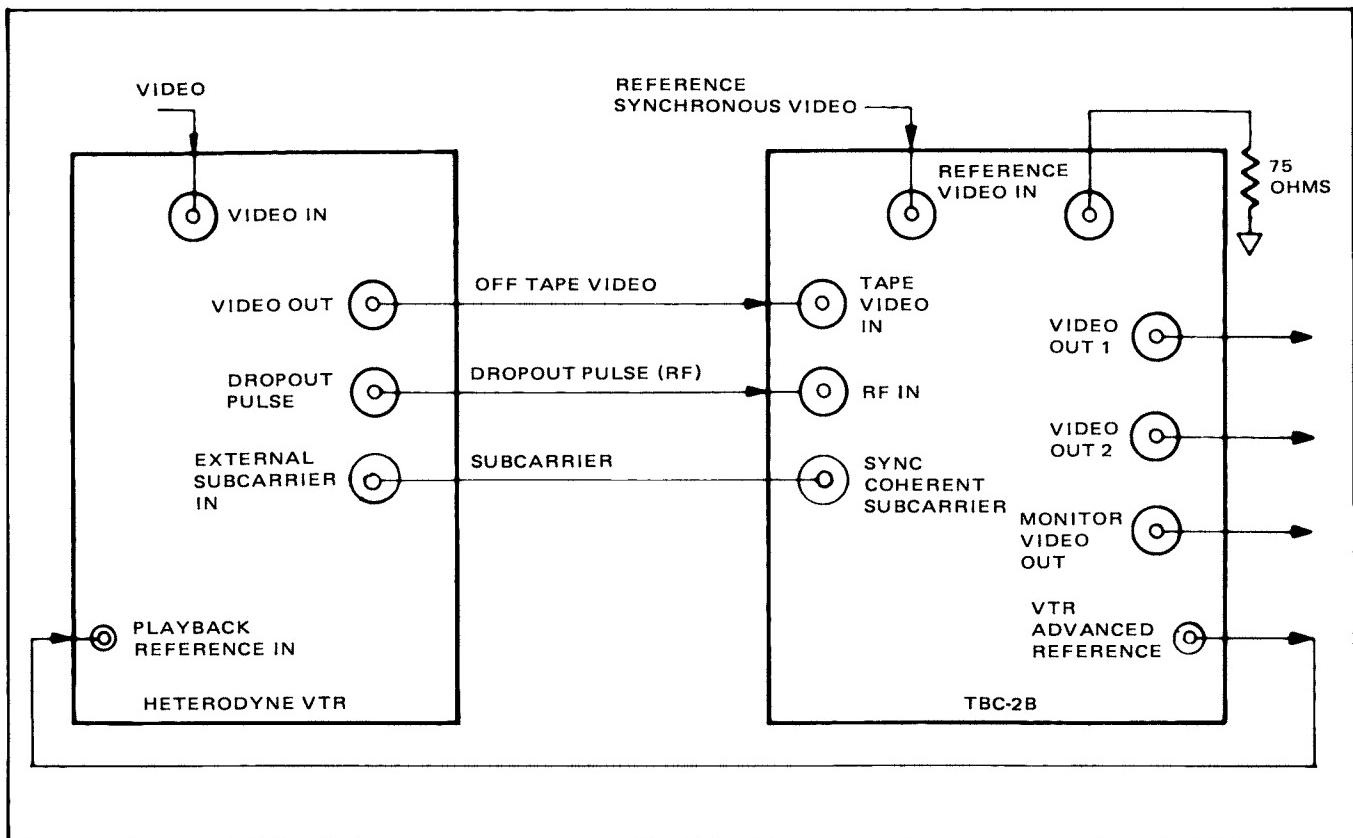

Figure 2-8. TBC-2B/Two-Wire Heterodyne VTR Installation
2. Interconnect the TBC-2B in accordance with Figure 2-8.